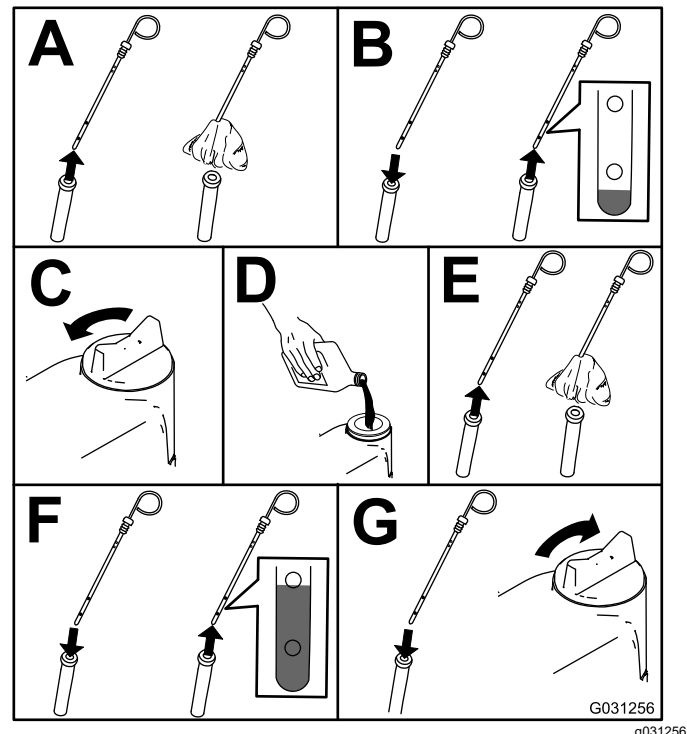

Figure 30
4. Check the engine-oil level as shown in Figure 30.